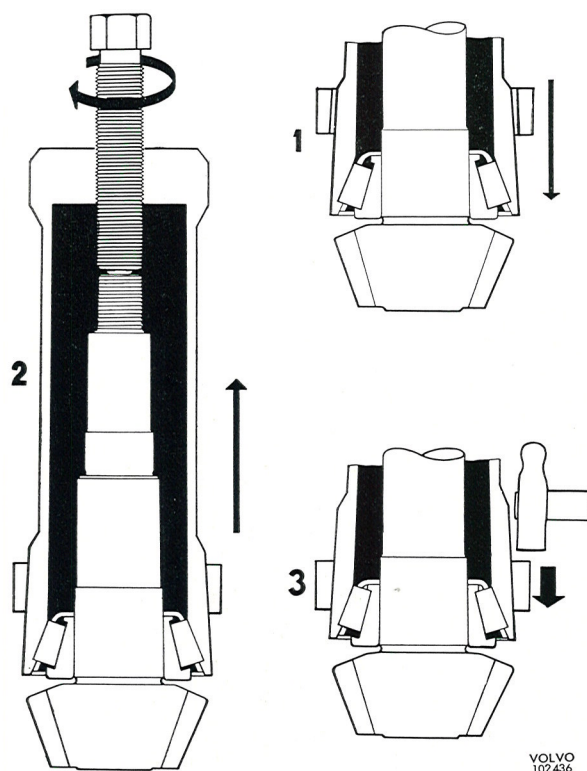
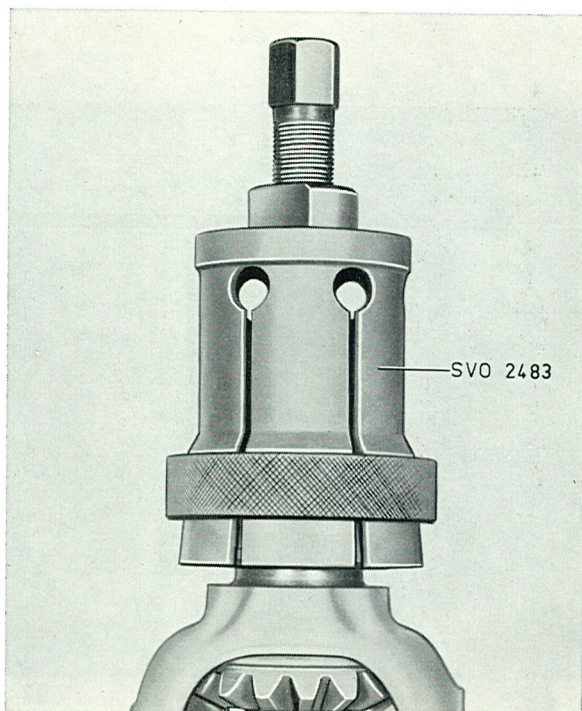

Fig. 4-98. Fitting the puller
Fig. 4-100. Removing the differential carrier bearings
Move the puller down over the rollers and press down the lock ring. Then pull up the puller with the bolt until the rollers lie flush with the edge of the inner race and the edge on the puller. Knock out the lock ring with a hammer. See also Fig. 4-98.
3. Pull off the differential carrier bearings with puller SVO 2483, see Fig. 4-100. Do not loosen the shims. Concerning the fitting of the puller, see also Fig. 4-98.